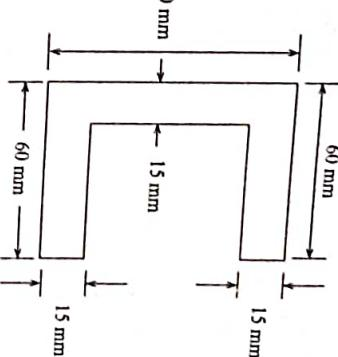

Figure 10.16
- 10.8 A beam of channel section as shown in Fig. 10.16, is subjected at a vertical section, a shear force of 50 kN. Draw shear stress distribution diagram. Find the ratio of maximum and mean shear stresses.